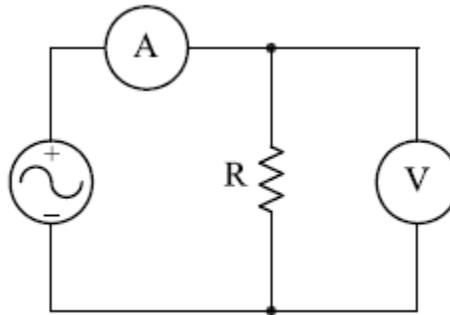

Fig1: experimental circuit of part 1
- 1- Connect the circuit in fig 1